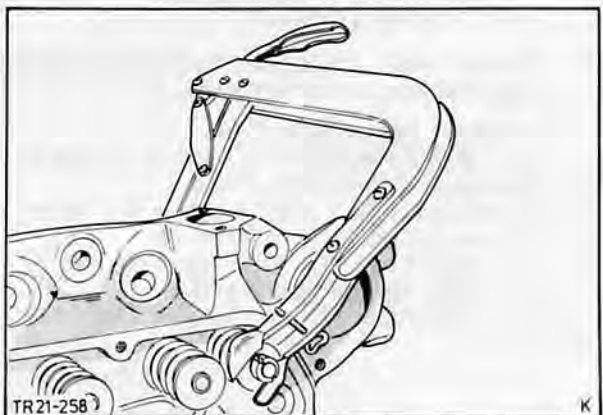

Fig. 174. Remove collets with standard valve spring compressor, 'A' engine
2. Compress valve spring and valve retainer with standard valve spring compressor and take out collets, Fig. 174.